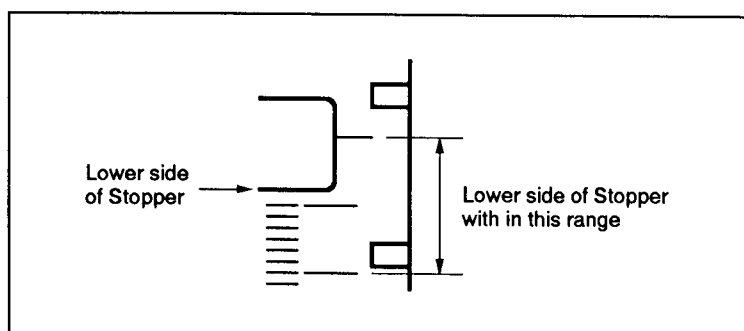

Fig. 8-10
- 10) While holding the flange back adjusting Pin ④ to prevent further rotation, retighten the flange back setscrew ③.
- 11) Check to see that the stopper bottom end is set within the range shown in Fig. 8-10 when the focus is matched by turning the focus ring.
- 13) With the zoom lever fixed at its WIDE end, turn the focusing ring and set it to the position that provides the optimum definition image of the wedge. Check to assure the lower side of stopper is within the range shown in Fig. 8-10.